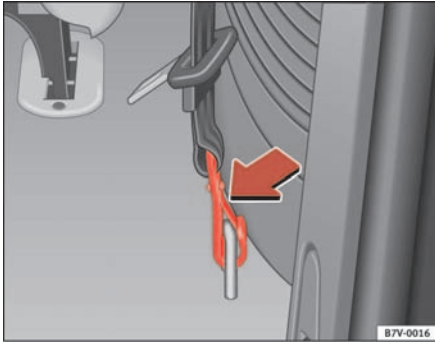

Fig. 18 Retainer with spring hook for the detachable seat belt
- Push the the spring hook ⇒ **fig. 18** in the direction of the arrow and remove the hook by pulling down.